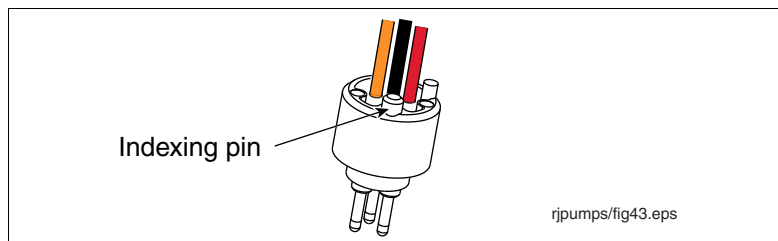

Figure 31. Male Connector's Indexing Pin
9. Notice the small indexing pin on the back of the male connector (see Figure 31).